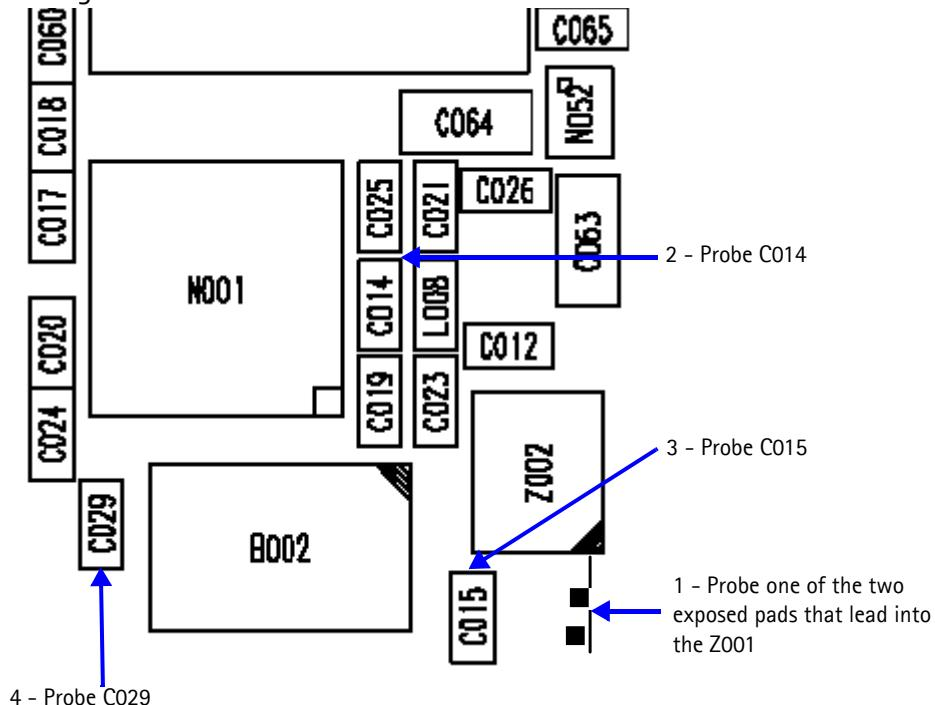

Figure 9: GPS RF probing measurements
3. Measure probe points with either a FET probe and a spectrum analyzer set at center frequency 1575.25MHz, Span = 500kHz, or a voltmeter as specified. See Table 1 for measurement information that correspond to the test points in Figure 9.
Table 1 defines the test points shown in Figure 9.